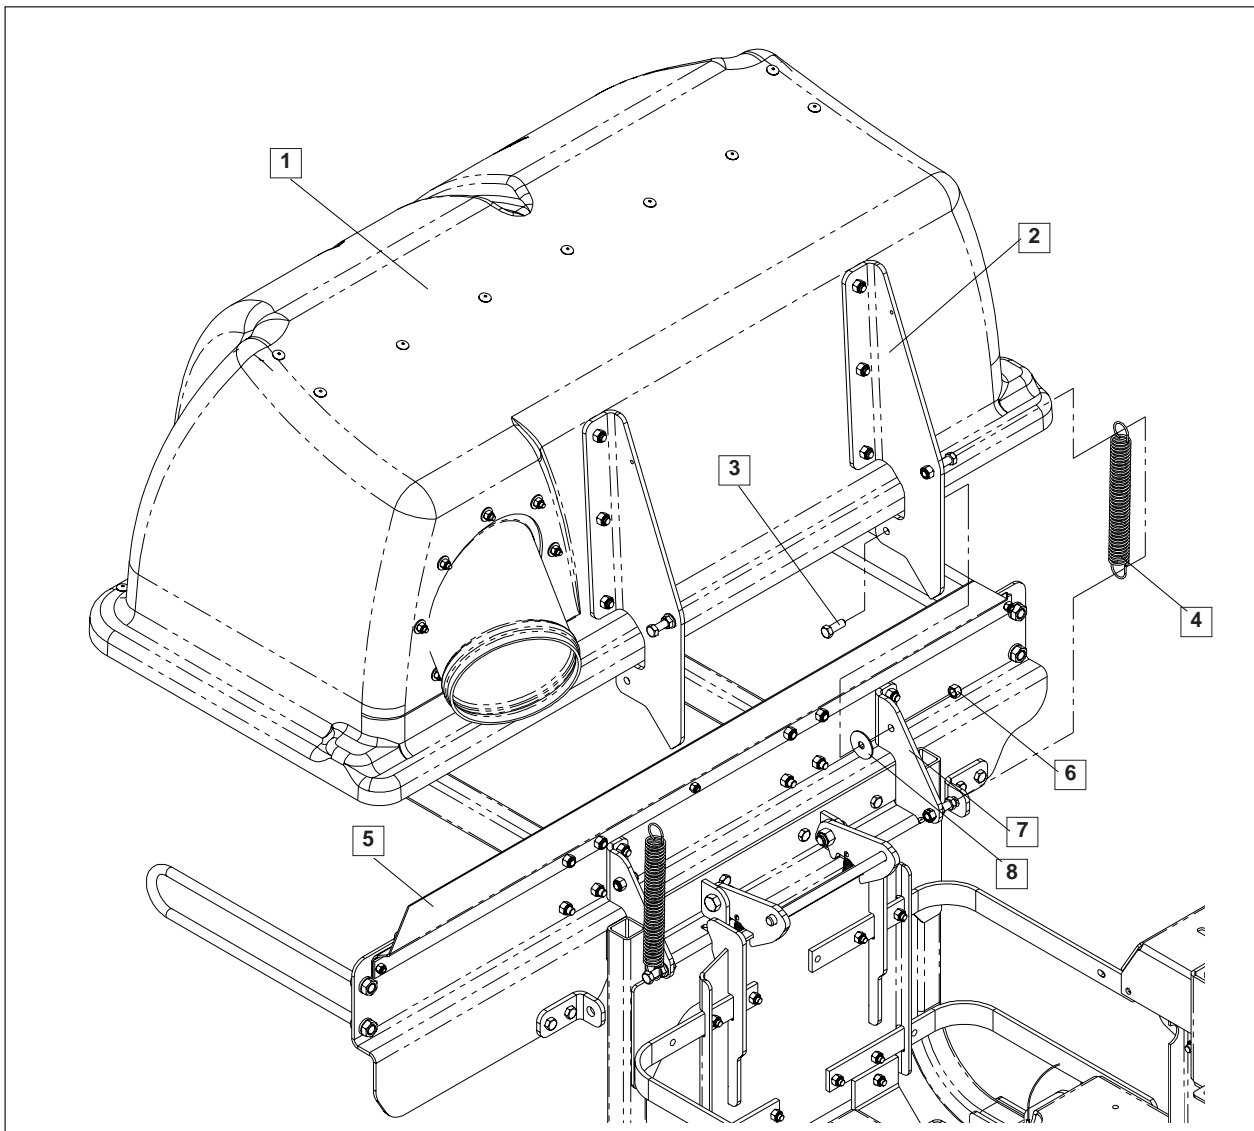

FIGURE 4
7. Place the hood assembly on to the hitch assembly. Place both hood hinges between the upper hitch mounts on the hitch assembly. Be sure that the rubber seal is on the inside of the hood. Place the (2) friction washers between the hood hinge and the upper hitch mount. Place the (2) 990563, 3/8 x 1 bolt thru the hinge and mount. Secure with (2) 976979, 3/8 nyloc nut. Figure 4.
8. Open the hood and secure the (2) springs to the bolts on the hood assembly and the hitch assembly. Figure 4.